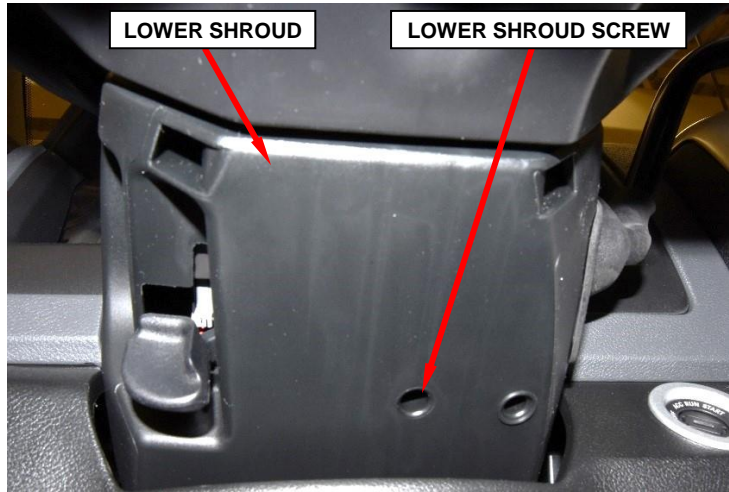

Figure 8 – Steering Column Lower Shroud
12. Remove and save the T20 star-head screw that retains the lower shroud to the steering column (Figure 8).
13. Carefully move the lower shroud to clear the steering column tilt lever then remove and save the lower shroud. (Figure 8).
36. Carefully position the lower shroud over the steering column tilt lever and onto the steering column (Figure 8).
37. Install the T20 star-head screw that retains the lower shroud to the steering column. Tighten the screw to 2.3 N·m (20 in. lbs.) (Figure 8).